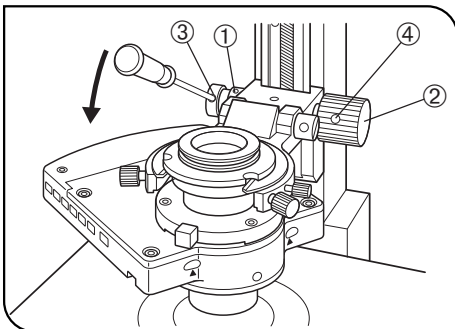

Fig. 28
4 Adjusting the Condenser Height Adjustment Knob Tension (Fig. 28)
1. Loosen the two knob clamping screws ① on the left adjustment knob using the Allen screwdriver.
When the handle ② has been moved to the left, restore it in the position as shown in Fig. 28.
2. Insert the Allen screwdriver into the hole ③ on the condenser height adjustment knob ② and, while holding the knob, turn the screwdriver in the direction of the arrow to increase the rotation tension of the knob or in the opposite direction to decrease the tension.
3. After adjustment, tighten the two clamping screws ① securely.